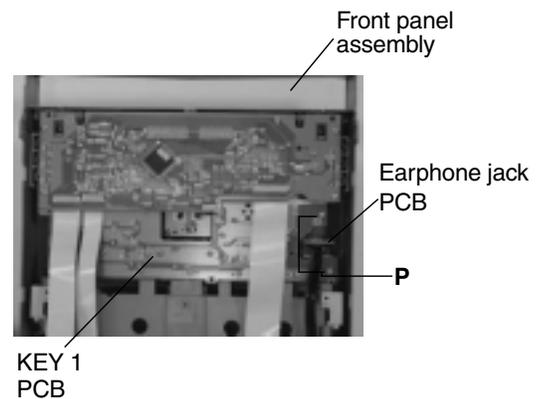

Fig.20
### ■ Removing the earphone jack PCB (See Fig.20)
**(See Fig.20 to 23)**
4. Remove eleven screws **R** retaining the switch (key 1) PCB.(Fig.20)